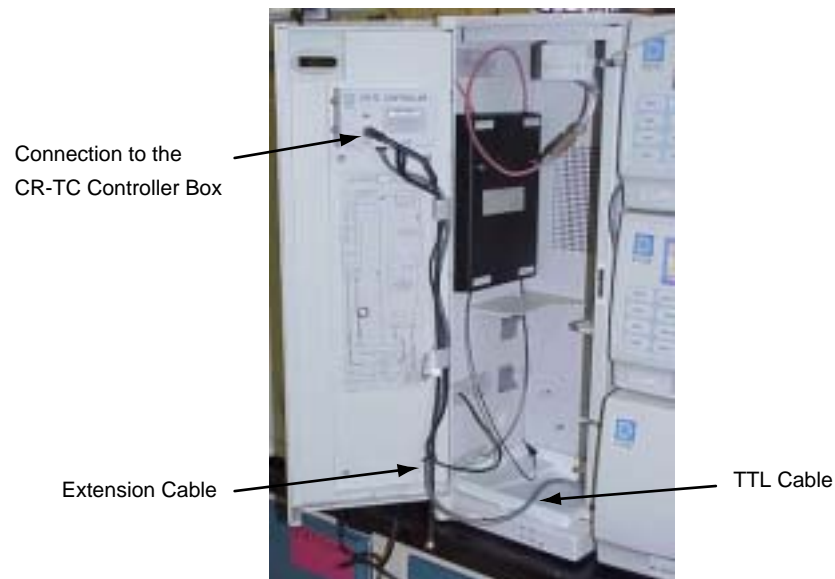

Figure 13
- C. Route the Extension Cable through the Tubing Clamps and Tie Wrap Mounts. See Figure 13. The cable will be attached to the CR-TC later in this guide.
- A. Route the pump TTL cable through either the left or the right tubing chase of the EG40 chassis. See Figure 13.